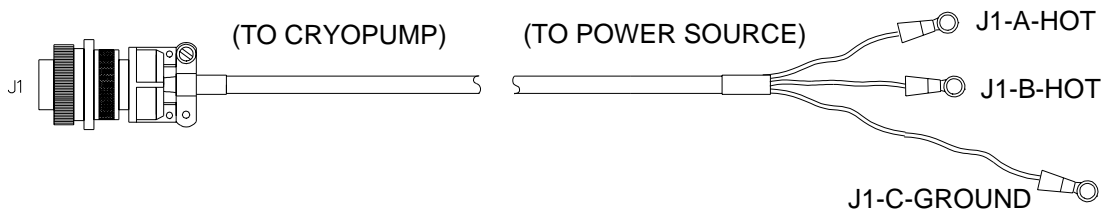

Figure 2-14: Input Power Cable
6. Connect the opposite end of the input power cable to a local 208 VAC, Single-Phase 5 Amp source as shown in Figure 2-14.